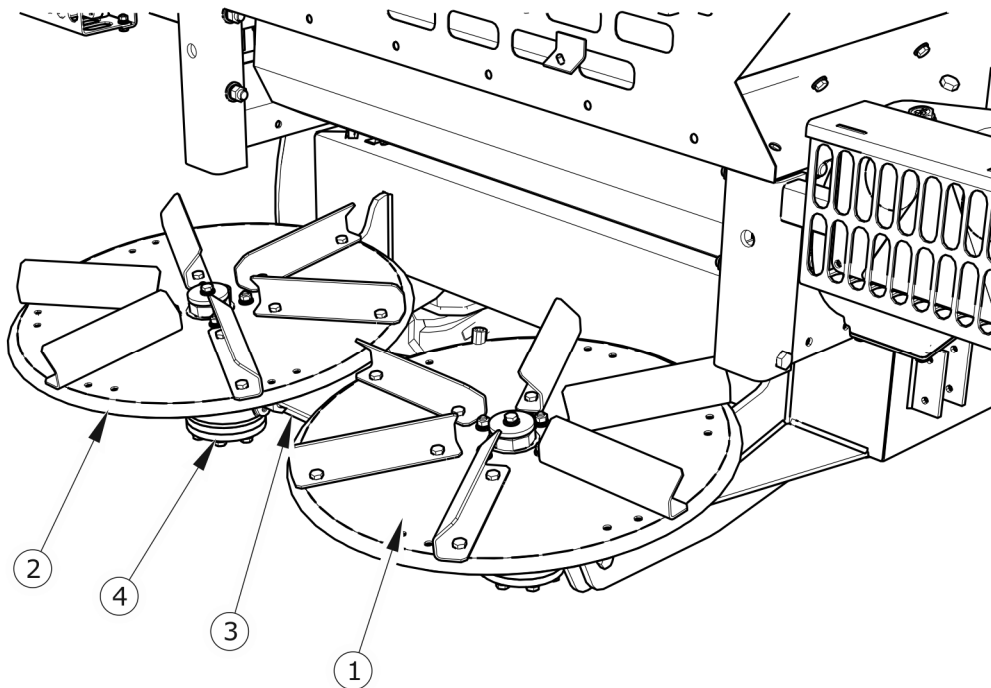

FIGURE 3.4 Spreading adapter
(1) feeding table, (2) front roller, (3) rear drive roller, (4) conveyor belt, (5) guide roller, (6) reduction gear, (7) hydraulic engine, (8) lights support, (9) bearing assembly
The spreading adapter base (3) is fixed to the spreader frame brackets located in the rear section of the machine – see Figure 3.4. Screwed to the frame are the hydraulic motors (4), on which the right (1) and left (2) spreading discs are installed.